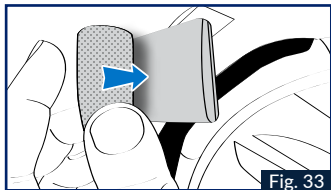

Fig. 33
3. Affix the foam cushioning present in your Sena FOR SHARK kit (Bluetooth or Mesh) to the back of the battery of your Intercom Fig. 33